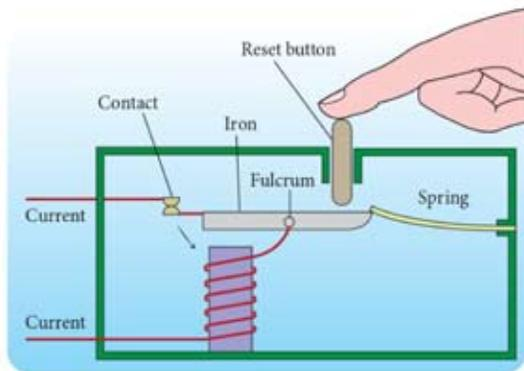

Figure 4
8. Figure 4 shows a model of Miniature Circuit Breaker (MCB).